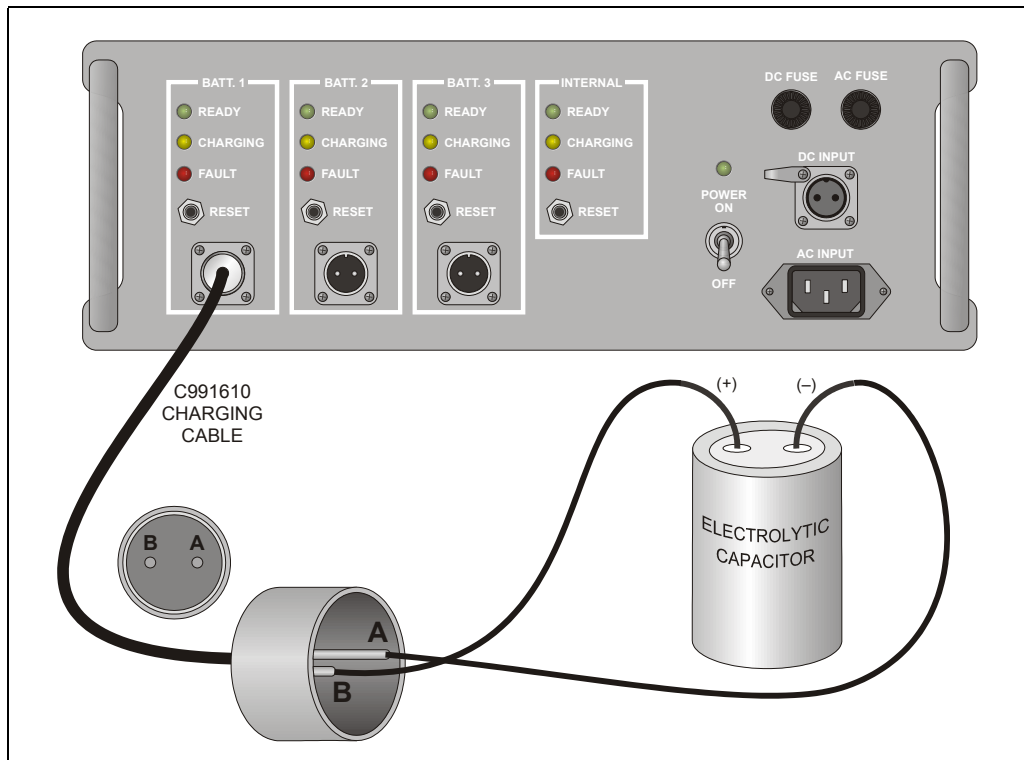

Figure 5-1 Charger Output Check Setup
3. Use the clip jumpers to connect one of the C991610 charging cables to the capacitor as if it were a BB-LA6 (refer to Figure 5-1 on page 5-2).